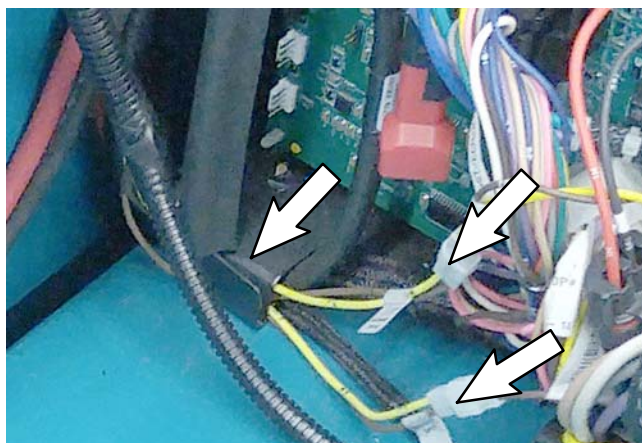

FIG. 14
15. Route the brown and yellow wires from the telemetry harness under cover clip as shown (FIG. 14).